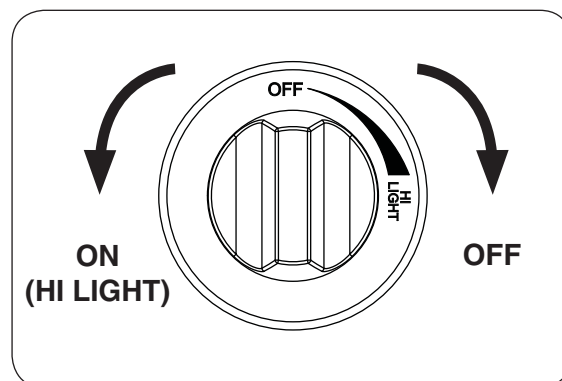

Fig. 25-2
4. **While holding the igniter button in, verify that the electrode spark is grounding to the flash tube**, then depress the gas control knob and **gradually** turn it counter-clockwise to the **HI LIGHT** position (see Fig. 25-2). Your burner should light.
To **extinguish your gas burner**, depress the gas control knob and turn it clockwise to the **OFF** position (see Fig. 25-2). Be sure the control knob is turned fully off to avoid any gas leakage.